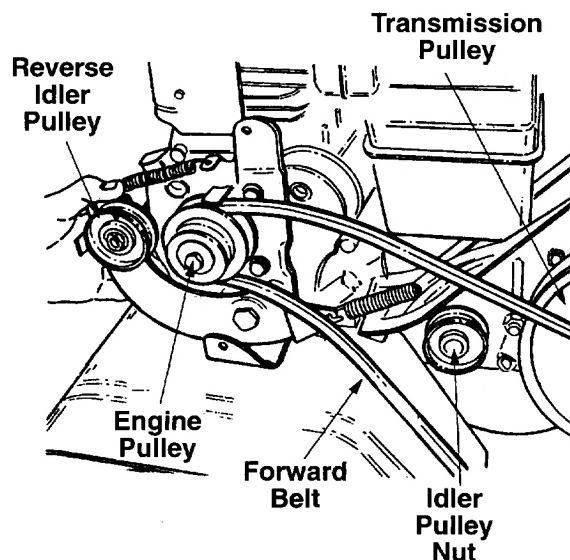

Figure 17. Model 390 Shown
3. Lift belt off the idler pulley and transmission pulley. See figure 17.
4. Using a 9/16" wrench, remove bolt from engine pulley. See figure 17.
5. Push reverse idler pulley bracket forward, and remove engine pulley and belt. See figure 17.